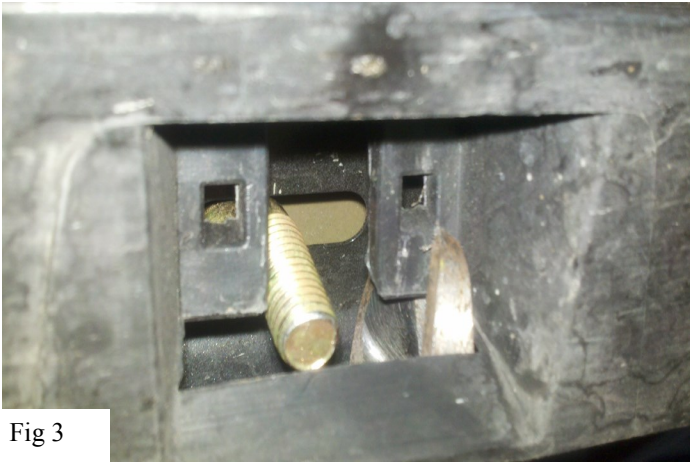

Fig 3
3. Insert (2) J-Bolts into the two slots no longer covered by the plastic retainers. Slight trimming of the plastic is recommended to add clearance for nuts and washers. (Fig 3)